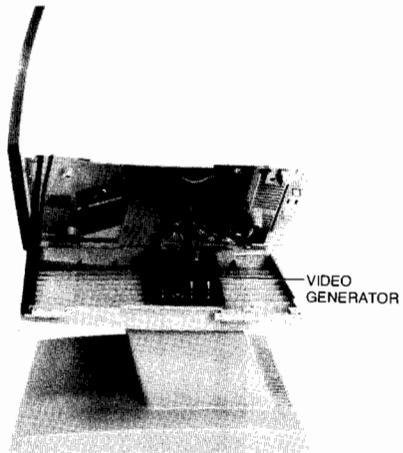

Figure 6-4. Video Generator Installed in Place of the Processor PCA
3. Install the Video Generator in place of the Processor PCA (figure 6-4) and connect the power and sweep cables to J1 and J2, respectively, on the Video Generator.